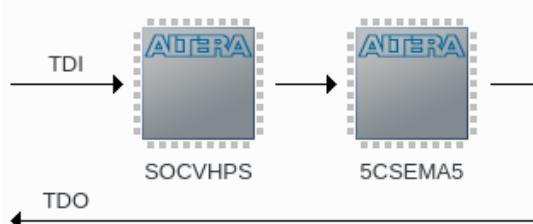

Figure 9-22. JTAG Scan Chain
You should now see 2 devices on the JTAG scan chain, as shown in Figure 9-22.
44. Right-click on the “5CSEMA5” device shown in Figure 9-22 and choose “Edit > Change File”. Then, select “DE1_SoC_demo/hw/quartus/output_files/DE1_SoC_demo.sof” through the file browser.